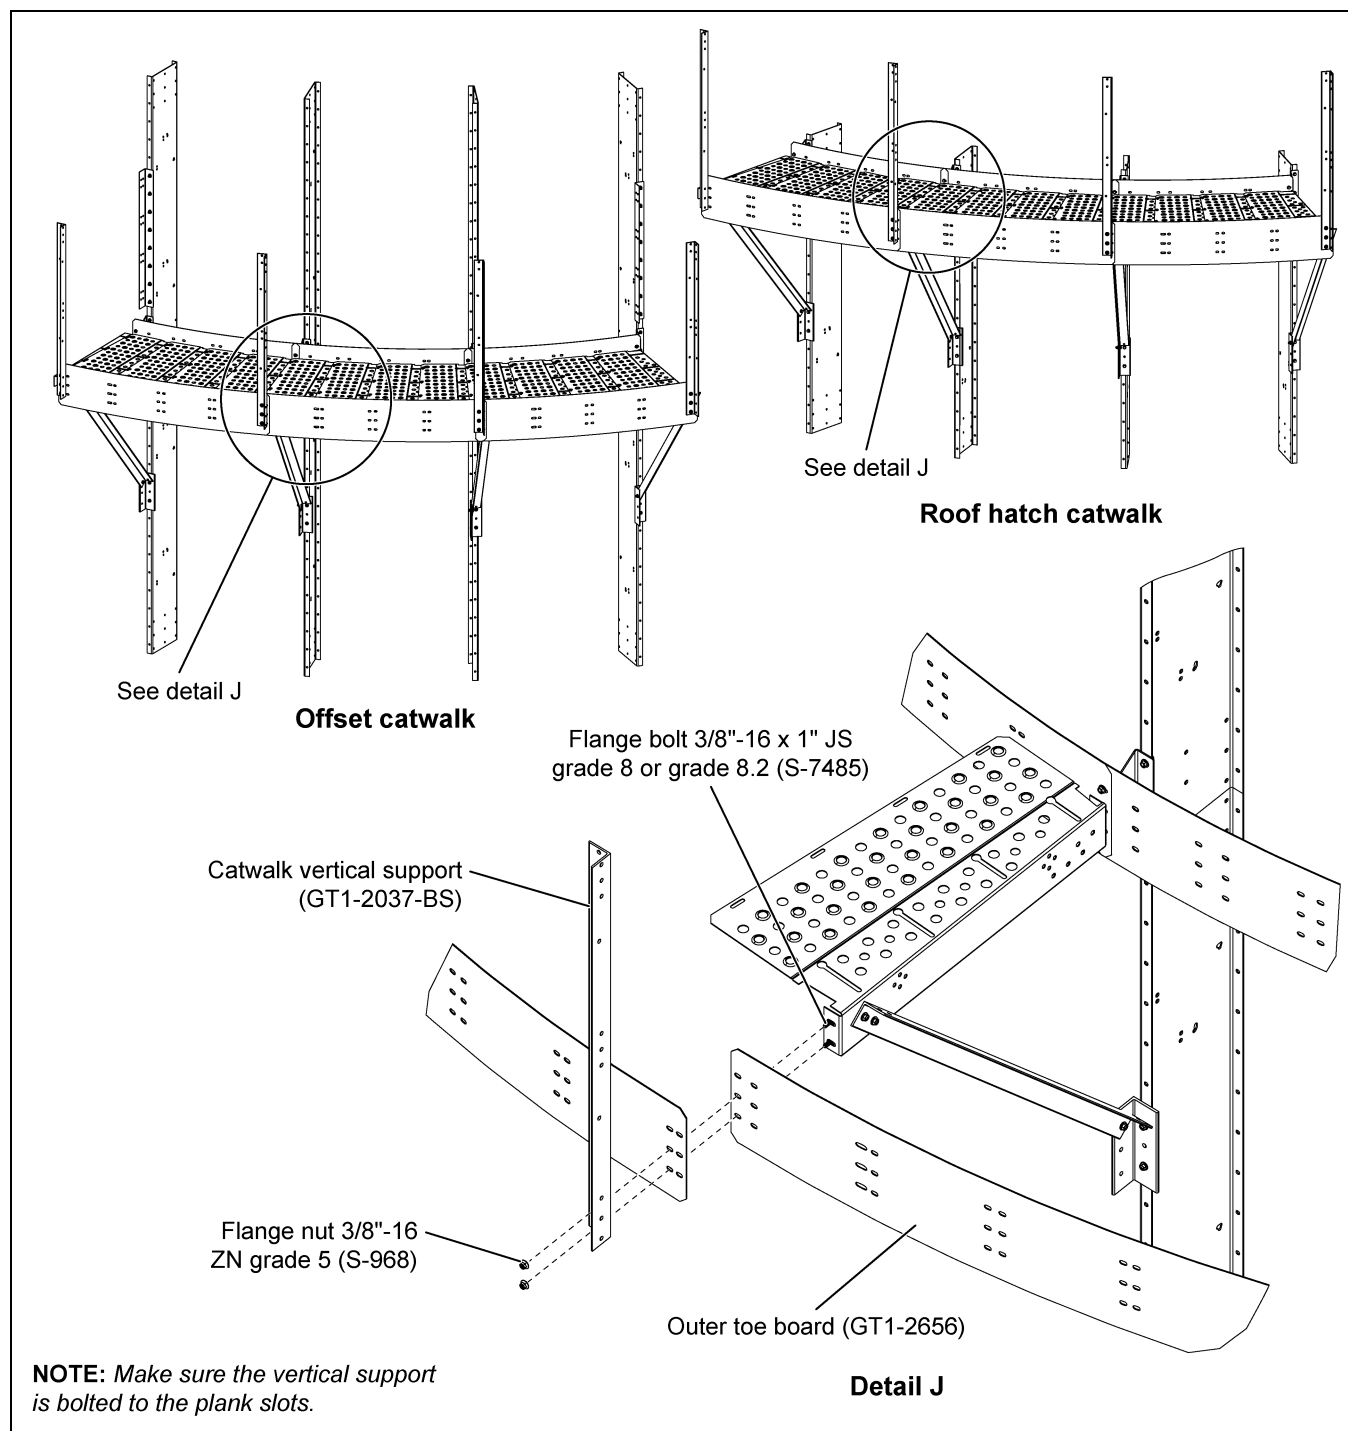

Figure 6T Outer Toe Board (GT1-2656) and Vertical Support (GT1-2037-BS)
1. Install all the outer toe boards (GT1-2656) to the planks (GT3-1669). *(See Figure 6T.)*
2. When installing the outer toe board with planks, install the catwalk vertical support (GT1-2037-BS) simultaneously at proper locations using 3/8"-16 x 1" JS grade 8 or grade 8.2 bolts (S-7485) and 3/8"-16 ZN grade 5 nuts (S-968). *(See Figure 6T.)*